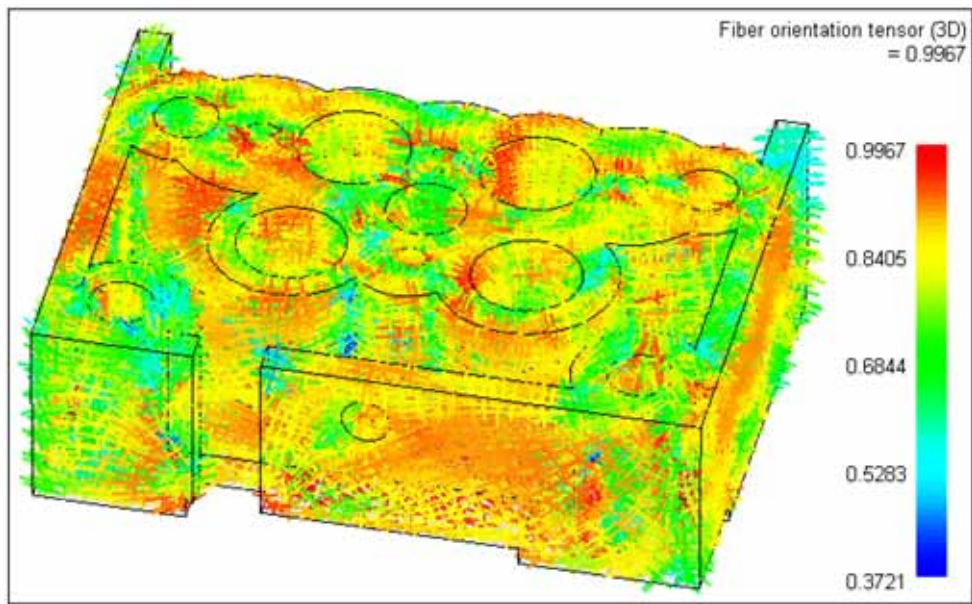

Figure 102: Fiber orientation tensor on a 3D part with default settings
2. Review to Figure 102 on page 281.